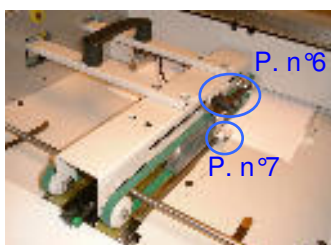

Figure 5
3.6.4 Release the indexable handle (figures 5 and 6) to manually adjust the foot stop (figures 5 and 7) in support on the back of the paper.